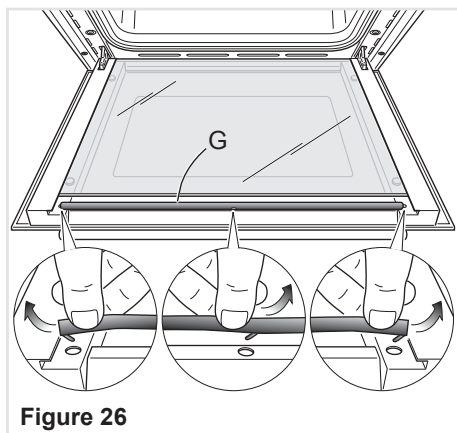

Figure 26
- Remove the seal "G" by unhooking the no. 3 fixing hooks (fig. 26).